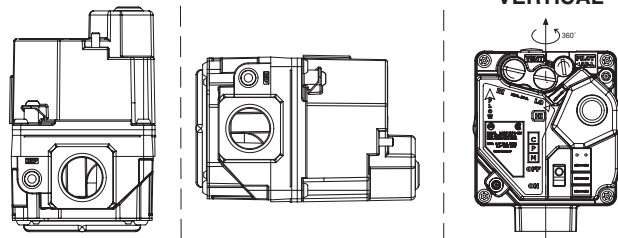

Figure 1. Gas valve mounting positions
3. This valve may be installed upright, + or - 90° from upright, or vertical (refer to figure 1). The arrows on the valve identification label and on the bottom plate indicate direction of gas flow through the valve.